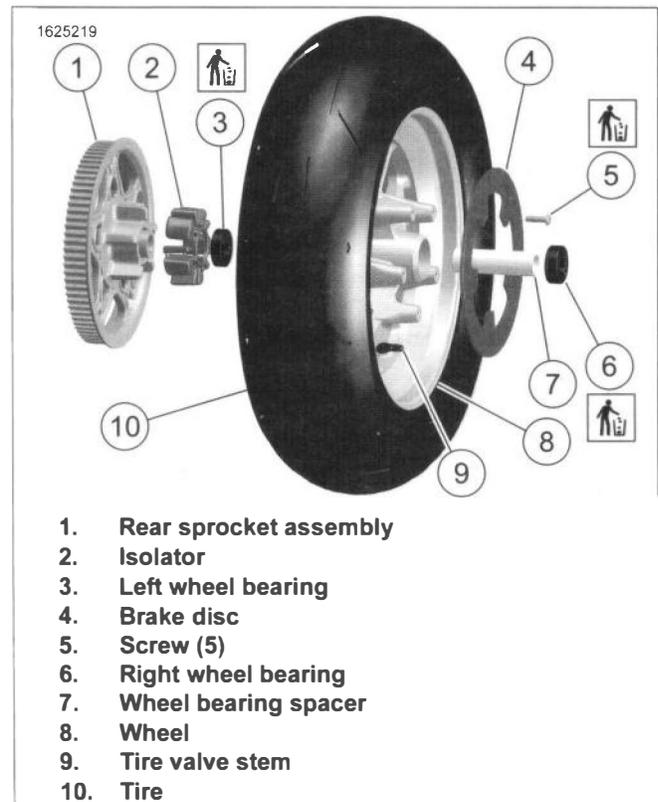

Figure 3-8. Rear Wheel (typical)
1. See Figure 3-8. Remove rear sprocket assembly (1) and isolator (2). See REAR WHEEL COMPENSATOR (Page 3-13).
2. Remove tire (10). See TIRES (Page 3-18).
3. Remove tire valve stem (9). See TIRE PRESSURE MONITORING SYSTEM (TPMS) (Page 3-16).
- a. Remove and discard screws (5).
- b. Remove brake disc (4).
6. Remove wheel bearing spacer (7).
1. See Figure 3-8. Install bearing spacer (7) and **new** wheel bearings (3, 6). See SEALED WHEEL BEARINGS (Page 3-15).
2. See Figure 3-8. Install brake disc (4) and **new** screws (5).